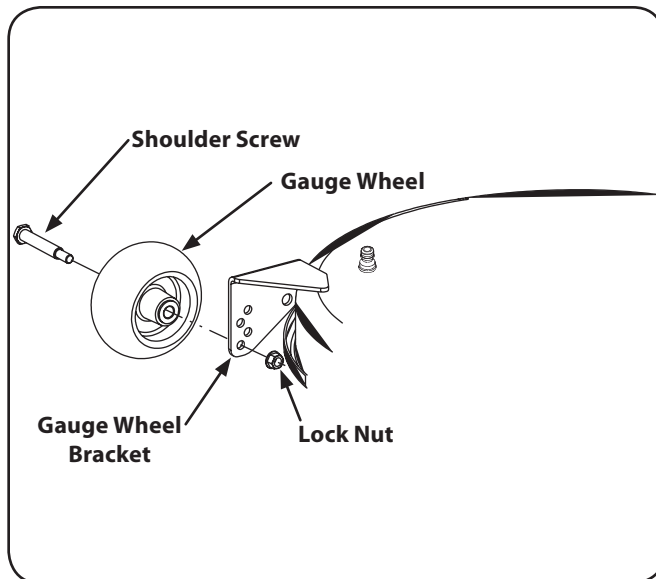

Figure 6-8
2. Remove the lock nut securing one of the front gauge wheel shoulder screws to the deck. Remove the gauge wheel and shoulder screw. Refer to Fig. 6-8.